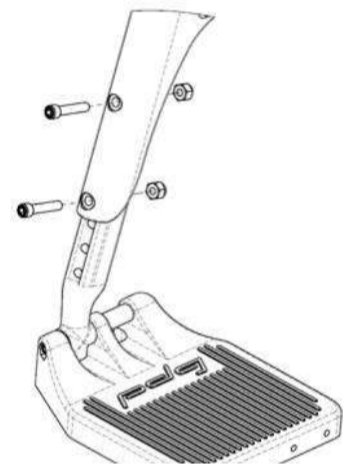

Figure 14.11: Standard Swing-Away footrest height adjustment
1. Remove any padding and/or calf strap, if fitted. Remove the fastener and nut as shown in Figure 14.11